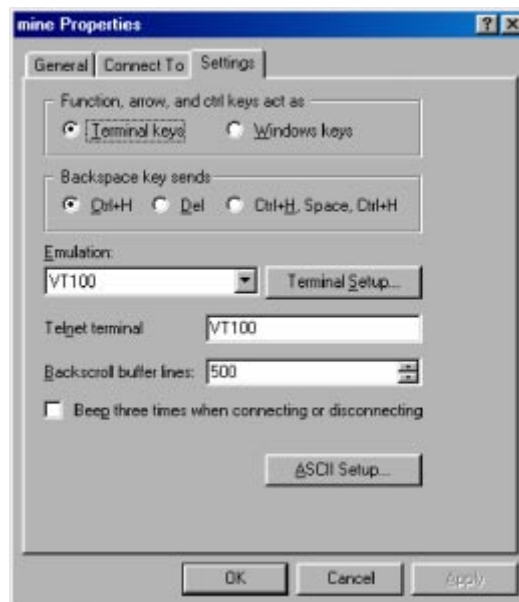

Figure 36. Terminal keys configuration
- Configure the settings for *Function, arrow and ctrl keys act as to Terminal keys* as shown in figure 36, then click **OK**.